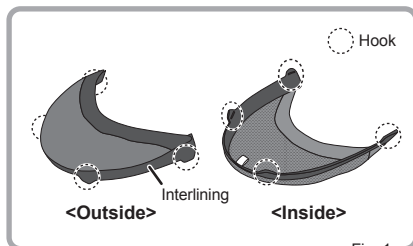

Fig. 1
1. Referring to (Fig.1) to distinguish the outside and inside.